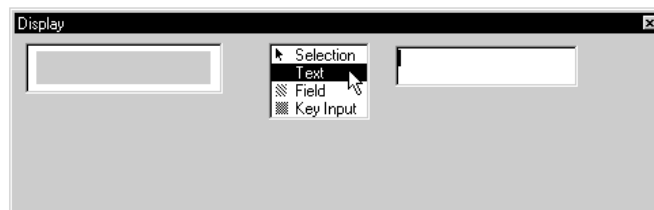

Figure 4-64 Display Window - Text Tool Selected
37. The **Display** window shows the text entry screen (Figure 4-64).